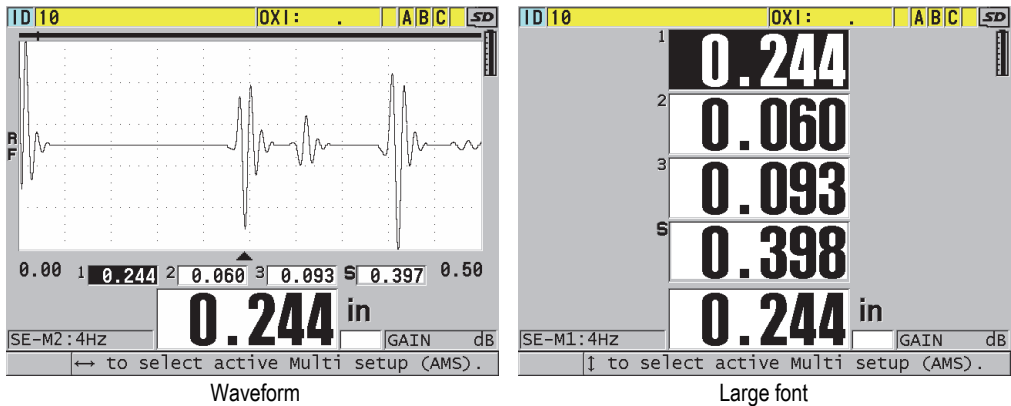

Figure 7-8 Multi-measurement display modes with three layers and the sum
- d) Set **DISPLAY MODE** to (see Figure 7-8 on page 117):
- c) Set **DISPLAY MODE** to **WAVEFORM** or **LARGE FONT** (see Figure 7-8 on page 117).